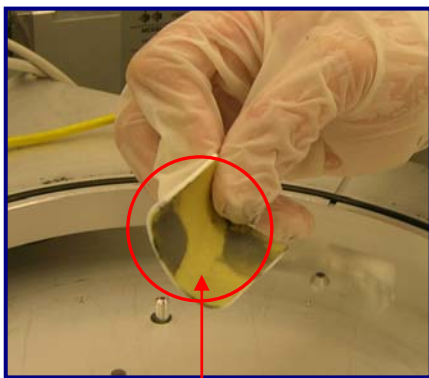

Fig 5: ScrubPAD loaded with deposition
Step 7: As Diamond ScrubPAD loads-up with deposition, pull ScrubPAD across damp UltraSOLV[®] Sponge to properly unload (See Fig 5, 6 & 7)